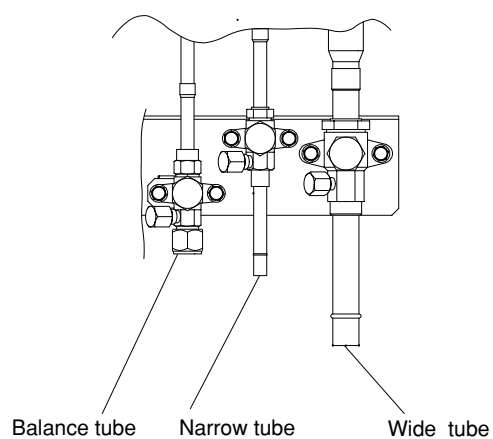

Fig. 10-2
- (6) Both the wide and narrow tube service valves are open. If not, open them now. (Fig. 10-2)
- (7) Request that the customer be present for the trial run.